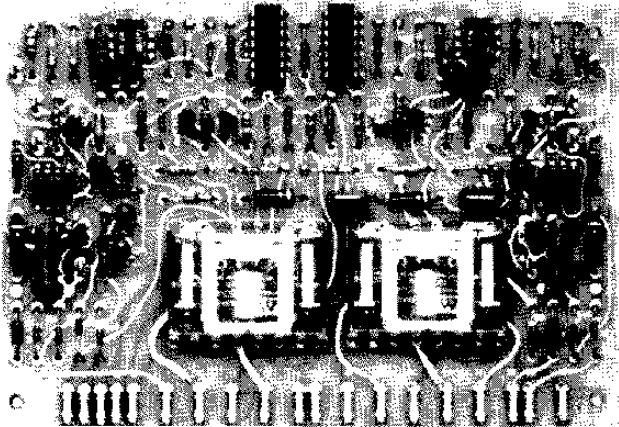

Figure 3—Plug-In Zone Board
- 1) Zone Board - Each plug-in zone board (Figure 3) provides two fire zone relays and their associated circuitry. Up to four zone boards can be plugged into the Auxiliary Zone Unit.